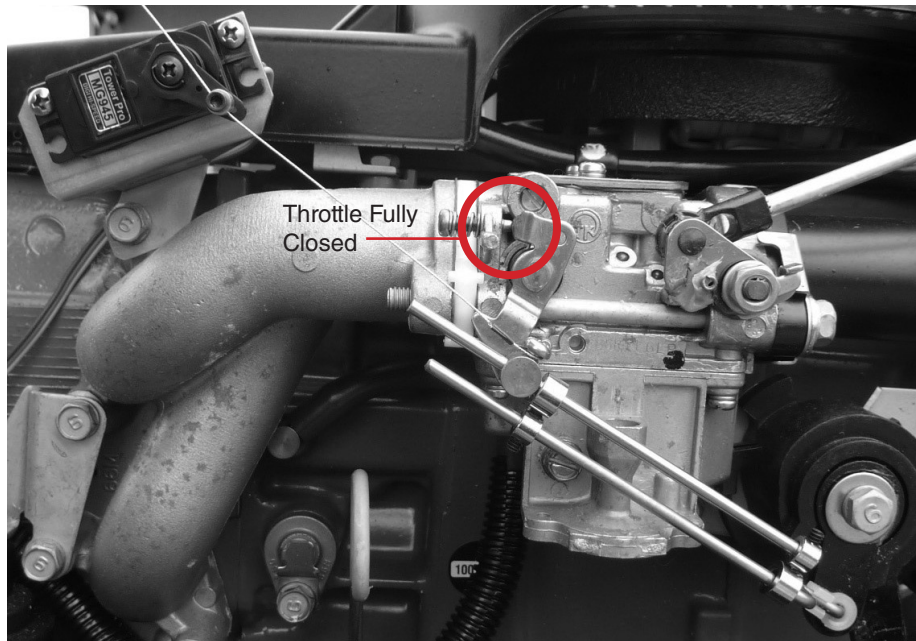

Figure 5
- Move iTroll throttle rod so slip connector "B" sits just LEFT of the bend in Yamaha's throttle rod (see Fig. 5).
Step 5: See Fig. 5
NOTE: Fig. 5 shows servo with arm attached.
- Install servo arm as shown in Fig. 5.
- Take up slack on cable. MAKE SURE throttle is closed (see Fig. 5). Tighten set screw in servo arm fitting with a flat screwdriver.